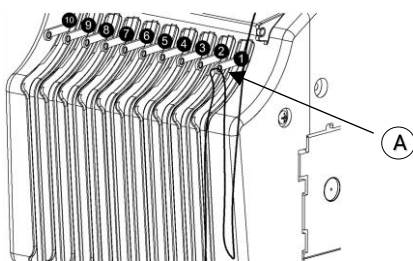

Figure 53
23. Pass the thread through the take-up level eyelet, from the right to the left. See "A" in Figure 53.